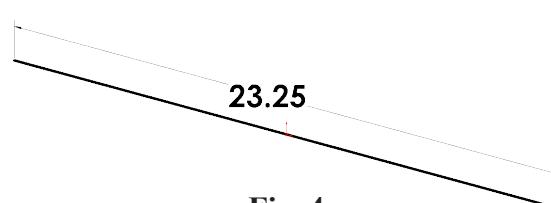

Fig. 4
Step 6. Click Smart Dimension (S) on the Sketch toolbar.
Step 7. Dimension line 23.25, Fig. 4.
Step 8. Click Zoom to Fit (F) on the View toolbar.